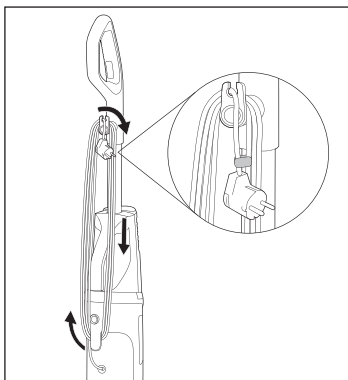

Fig. 3
- ♦ Wind the power cable **17** completely around the upper and lower cable retainers **16/20** (see fig. 3).